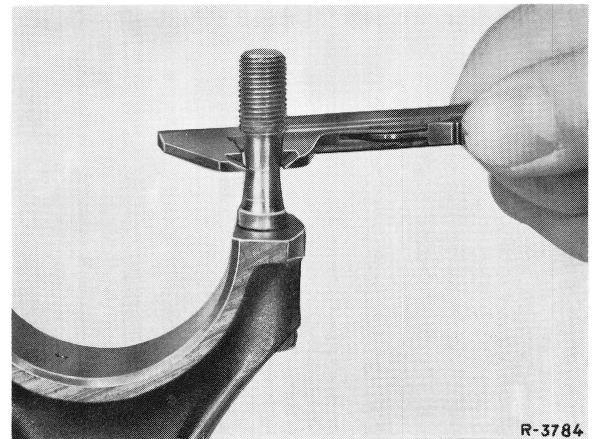

Fig. 1
**1** Measure expanding shaft visible after removing connecting rod bearing cap, since deformation will occur at this point only (Fig. 1).